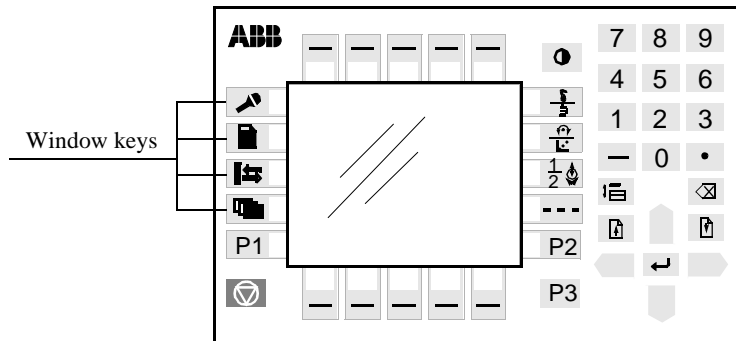

Figure 13 The four window keys.
6. There are four window keys on the teach pendant (see Figure 13 below and Chapter 3).